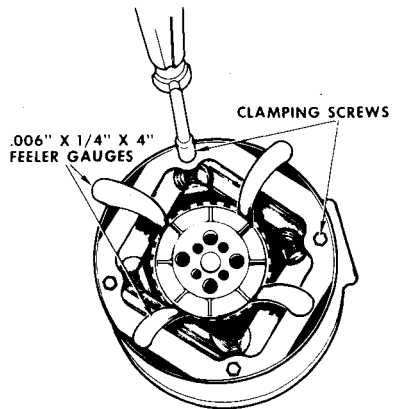

Figure 11 - Align Stator and Rotor as Shown
1. Check stator and rotor air gap alignment. Should be a minimum of .006". Adjust stator position if necessary. See figure 11. Proceed as follows: